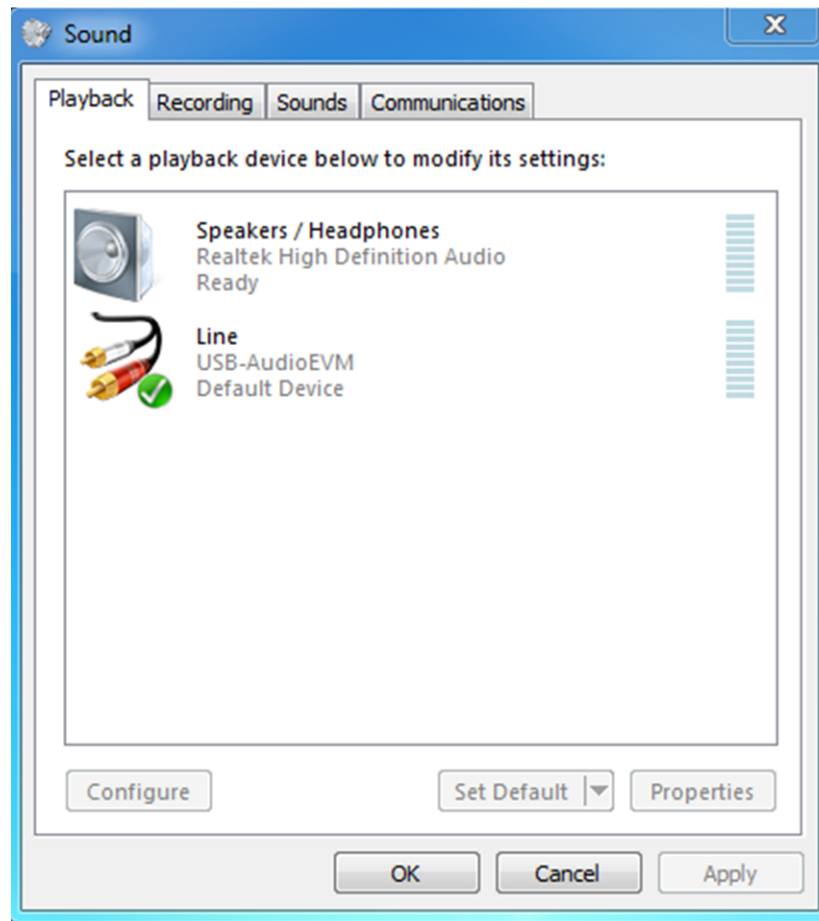

図 5. Playback Device Settings
- Verify that the computer has set the PurePath Motherboard as the default playback device by opening the sound dialog from the windows control panel (see 図 5)